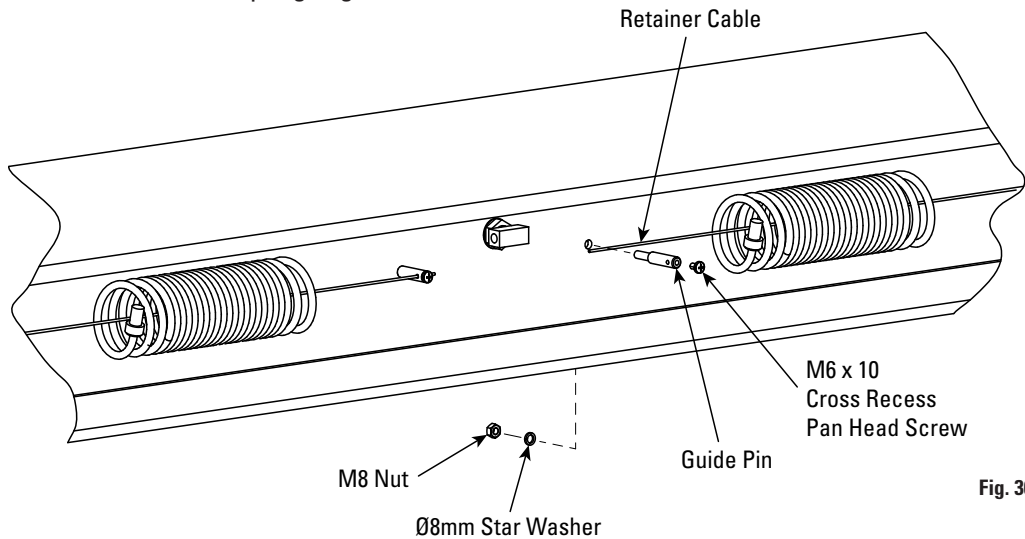
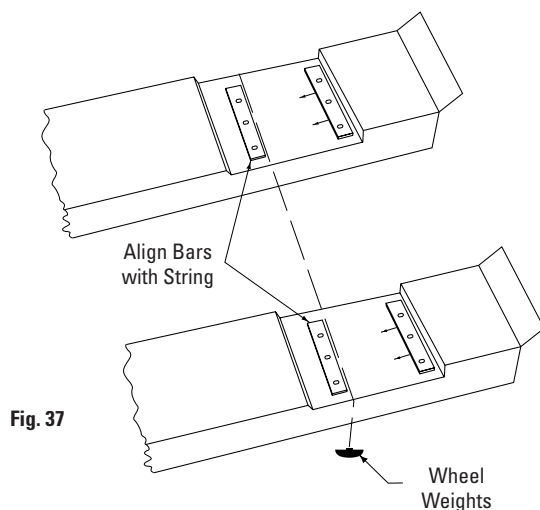

Fig. 36
Fig. 37
- A. Attach retainer brackets for the rear recoil hose with M8 star washer, lock washer and nut, Fig. 36.
- B. Insert retainer cable through coils of recoil hose, Fig. 37. Insert each end of cable into retainer brackets. Secure each cable end with a M6-10 cross recess pan head screw, Fig. 36.
- Assemble retainer cable following instructions in section 24. Insert retainer cable through coils of recoil hose, Fig. 36. Connect one end of recoil hose to coupling welded on rolling jack, Fig. 34 and 35.
- Place a weighted string, Fig. 37, across the runways so that the string is touching along the full length of both rear guide bars. If the string is not touching, tap the ends of the guide bars lightly until the guide bars make full contact against the string. Tighten the rear guide bar mounting bolts securely and remove the string.